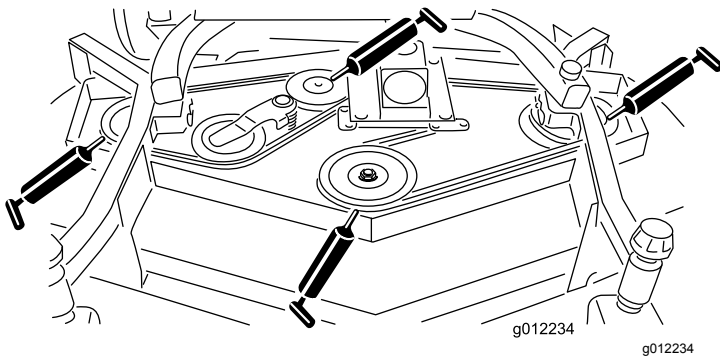

Figure 21
- Spindle shaft bearings (3) (located under the pulley) (Figure 21)
- Idler arm shaft bearings (Figure 21)